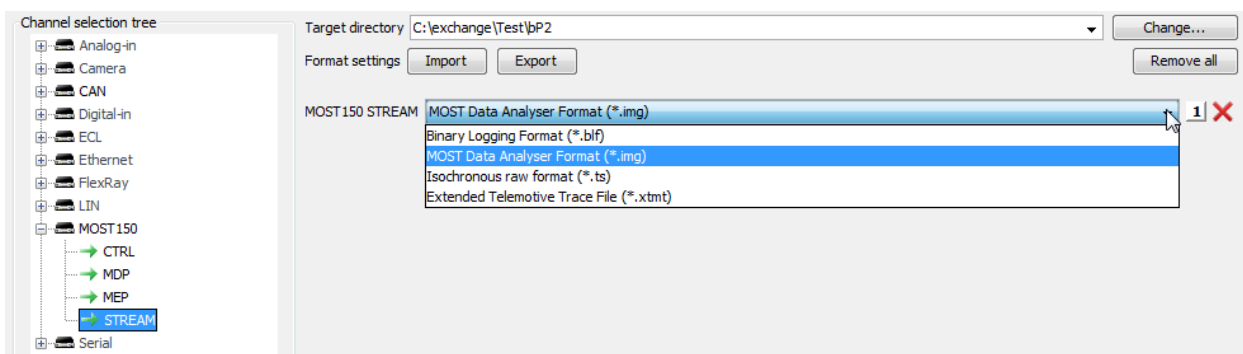

Figure 4: format selection
- Figure 4: format selection 11